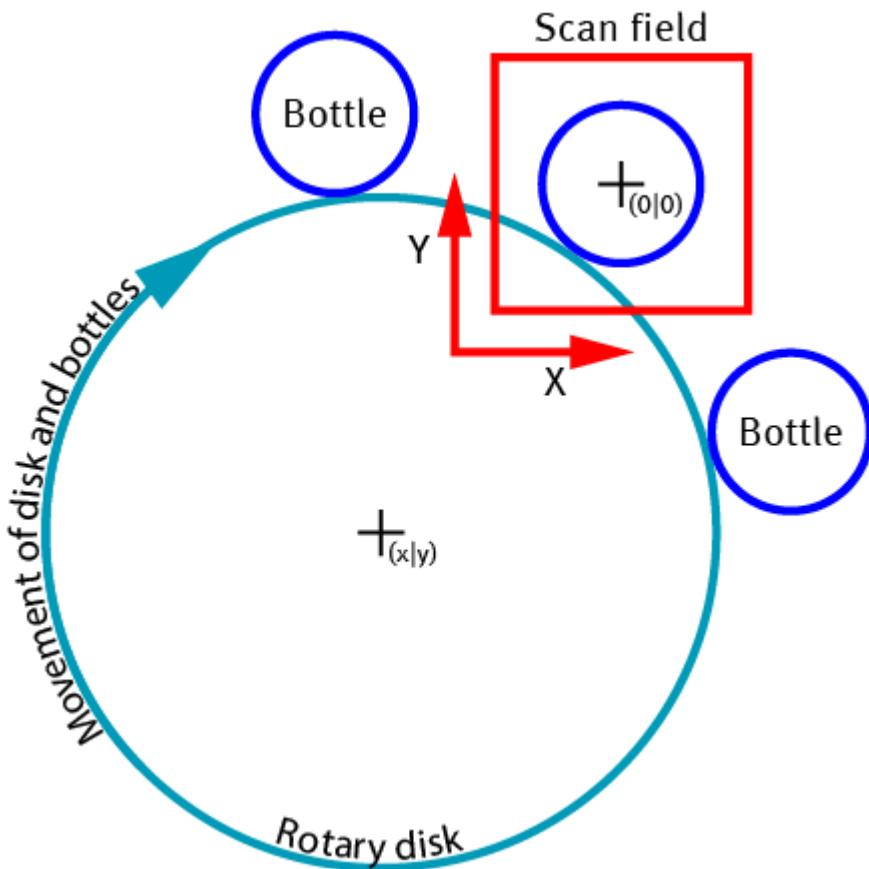

Figure 349: Setup RMOTF
Figure 349 shows a rotary disk (light blue) which is rotating clockwise. Bottles (dark blue) are rotated by this disk and thereby pass by the scan field (red) with the origin of the coordinate system (0|0). The center of the rotary disk is given in respect to the origin within the scan field.
- c. In figure 349, we use a 100 mm scan field, from -50 mm to 50 mm, so that the origin has the coordinates (0|0).
- d. Setup a job that contains a dot with the coordinates of your origin (in our example (0|0), figure 349).
- Enable MOTF, simulation and choose "Rotation". See figure 349 to determine the correct coordinates of the Rotation Point (the point is $(-x|y)$ in this example).